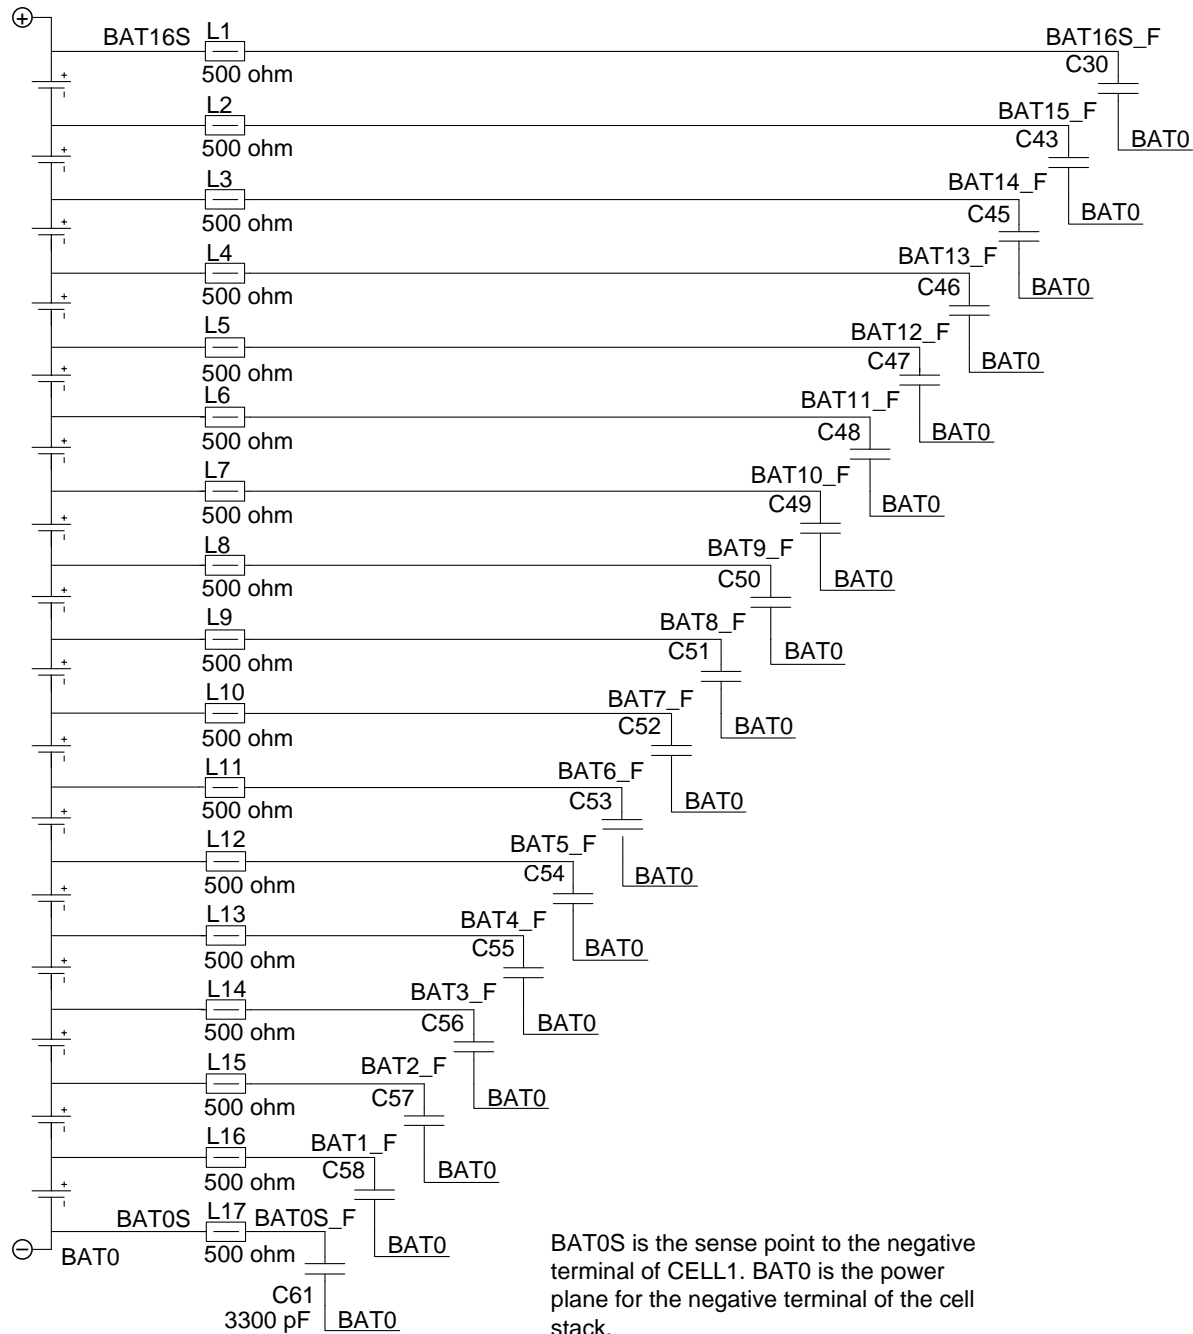

Figure 29. EMC Filter on Cell Inputs
- Add a 0.0033- μ F capacitor from each cell input to the battery pack (BAT0 in Figure 29). Adjust the value of capacitance to satisfy the PCB layout and field conditions for the application.